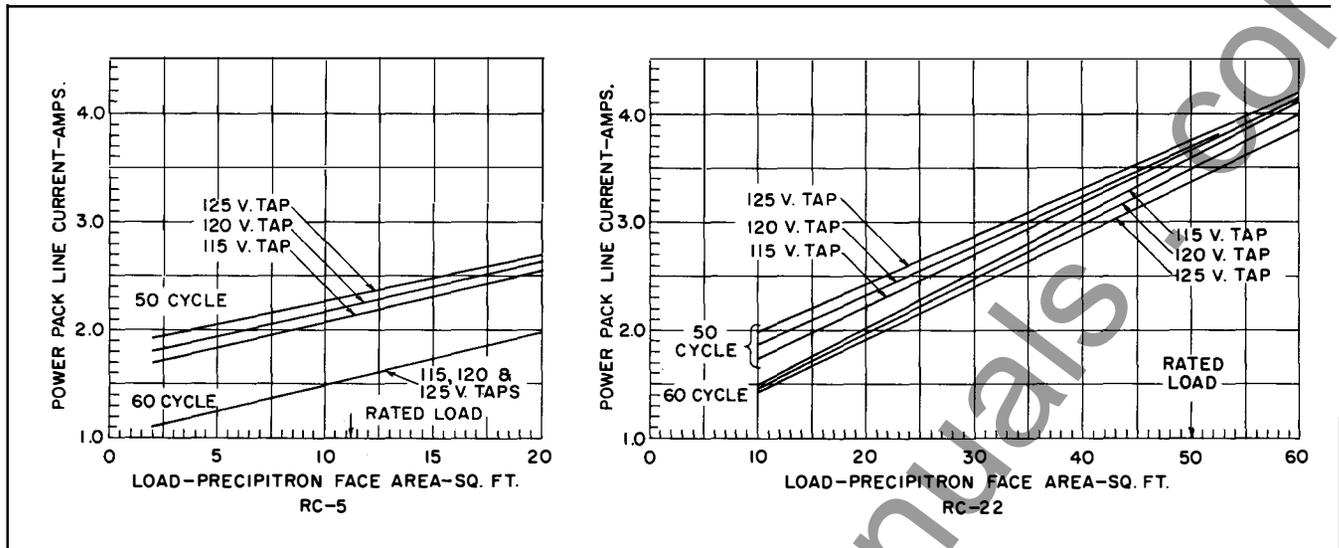

Fig. 5 Power Pack Input Current VS Precipitron Load
6. Record ammeter reading and compare with load curves in Fig. 5. Significantly high current indicates electrical leakage in the cells, ionizers or power pack. Low current indicates some ionizers or cells are not connected. See maintenance for correction of fault.